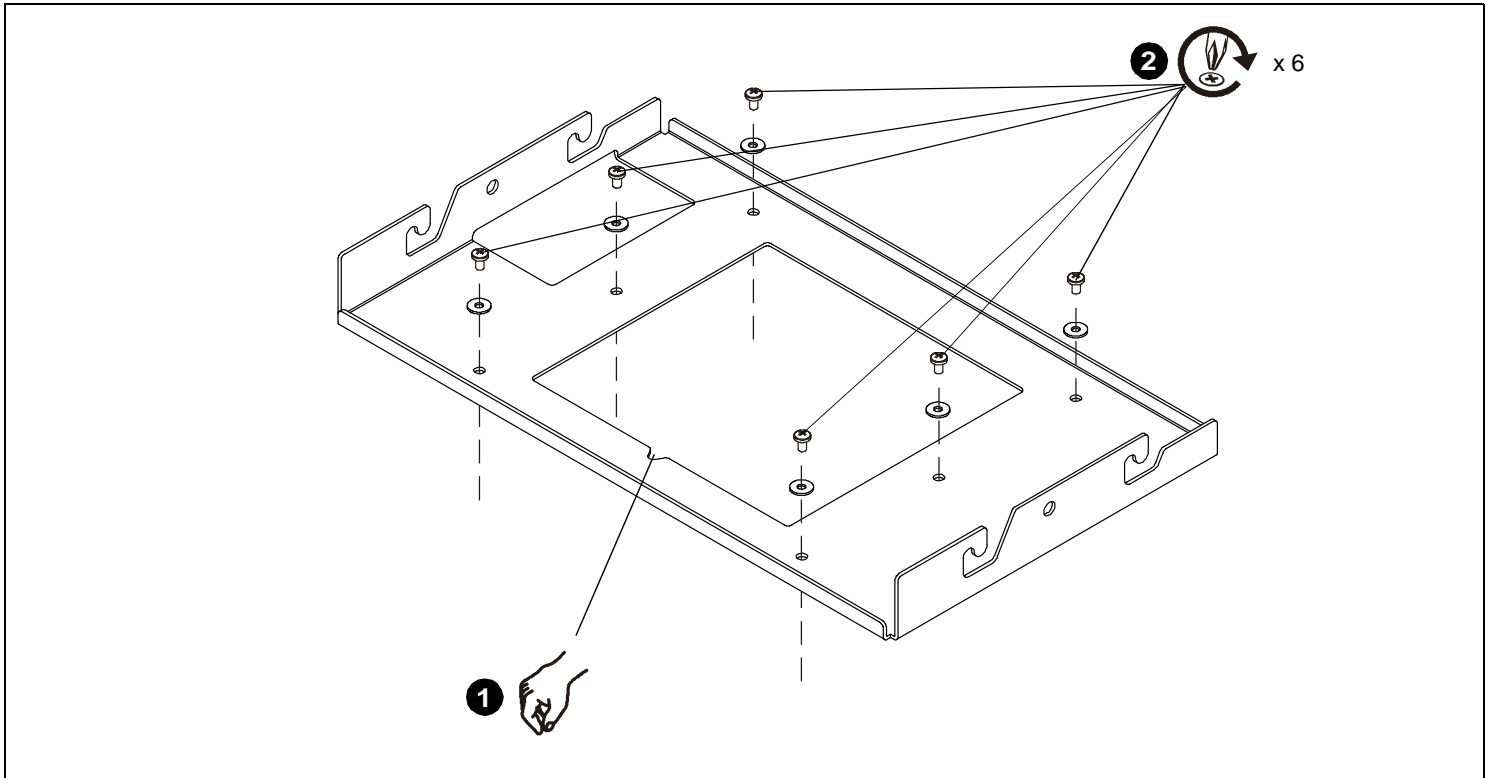

Figure 1
1. Lower custom HB bracket onto top of projector. Ensure that triangle in bracket points toward front of projector. (See Figure 1)
2. Attach HB bracket to projector using six M6 x 10mm Phillips pan head screws and six M6 flat washers through six holes in the HB bracket. (See Figure 1)